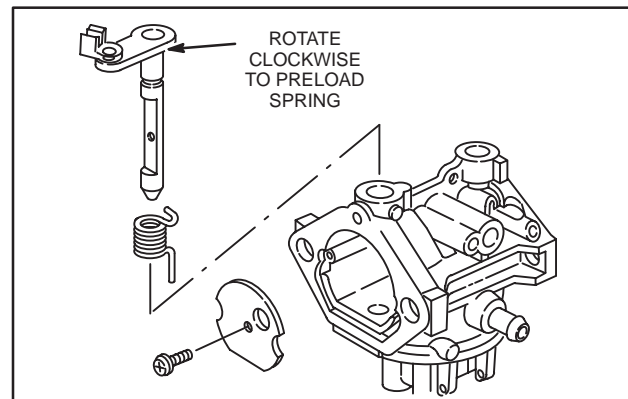

Fig. 16 – Installing Choke Shaft
2. Install choke valve, Fig. 16.